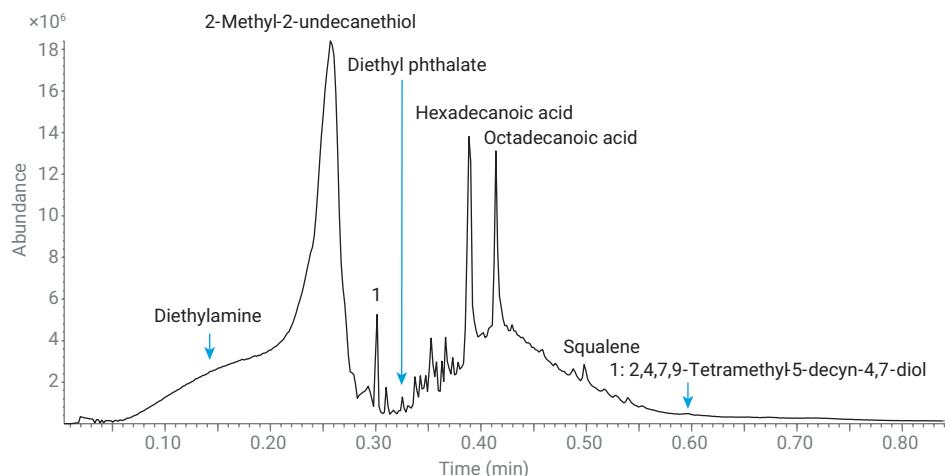

Figure 25. TIC of a slice of nitrile glove sampled with the TSP vial and holder. The sample was held in the inlet for 10 seconds injection time.
Figure 25 shows that 10 seconds was enough time to volatilize several compounds from the nitrile glove. There is a wide baseline increase that is attributed to dimethylamine followed by a very large peak of 2-methyl-2-undecanethiol. As expected, hexadecanoic acid and octadecanoic
Table 5. Compounds identified in the foot powder sample (shown in Figure 25) with retention times (RT), library match scores (LMS), chemical formulae, and CAS numbers.